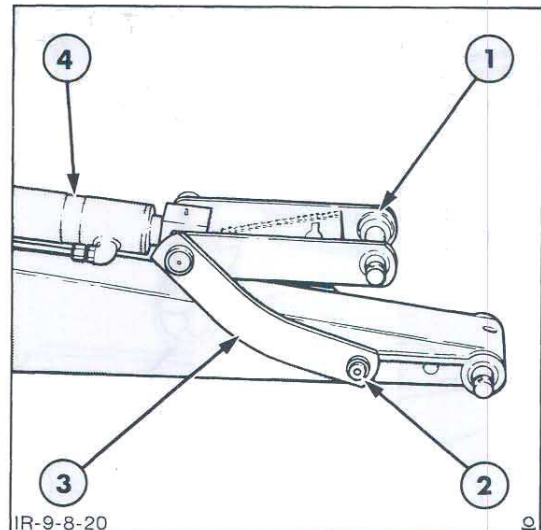

Figure 21
4. Support the bucket cylinder with a suitable hoist and remove the idler arm retaining pin from the dipstick, refer to Figure 21.